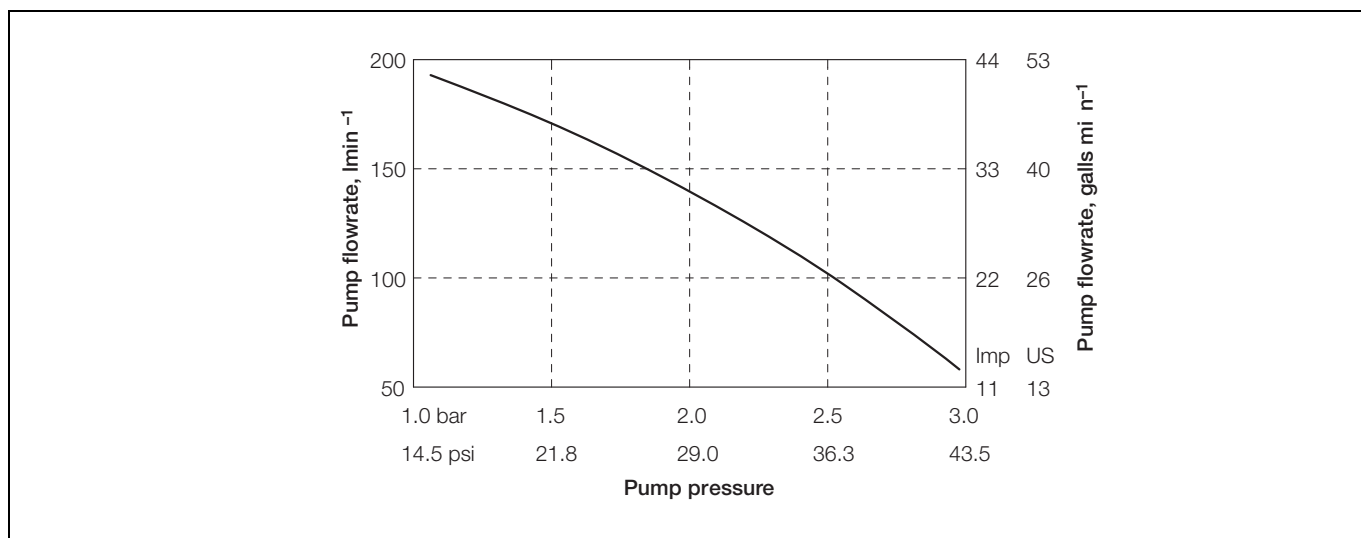

Fig. 2.2 Suitable pump operating characteristics
5. Use suitable pumps. The operating characteristics of a pump suitable for use with the Ultrafilter is shown in Fig. 2.2.